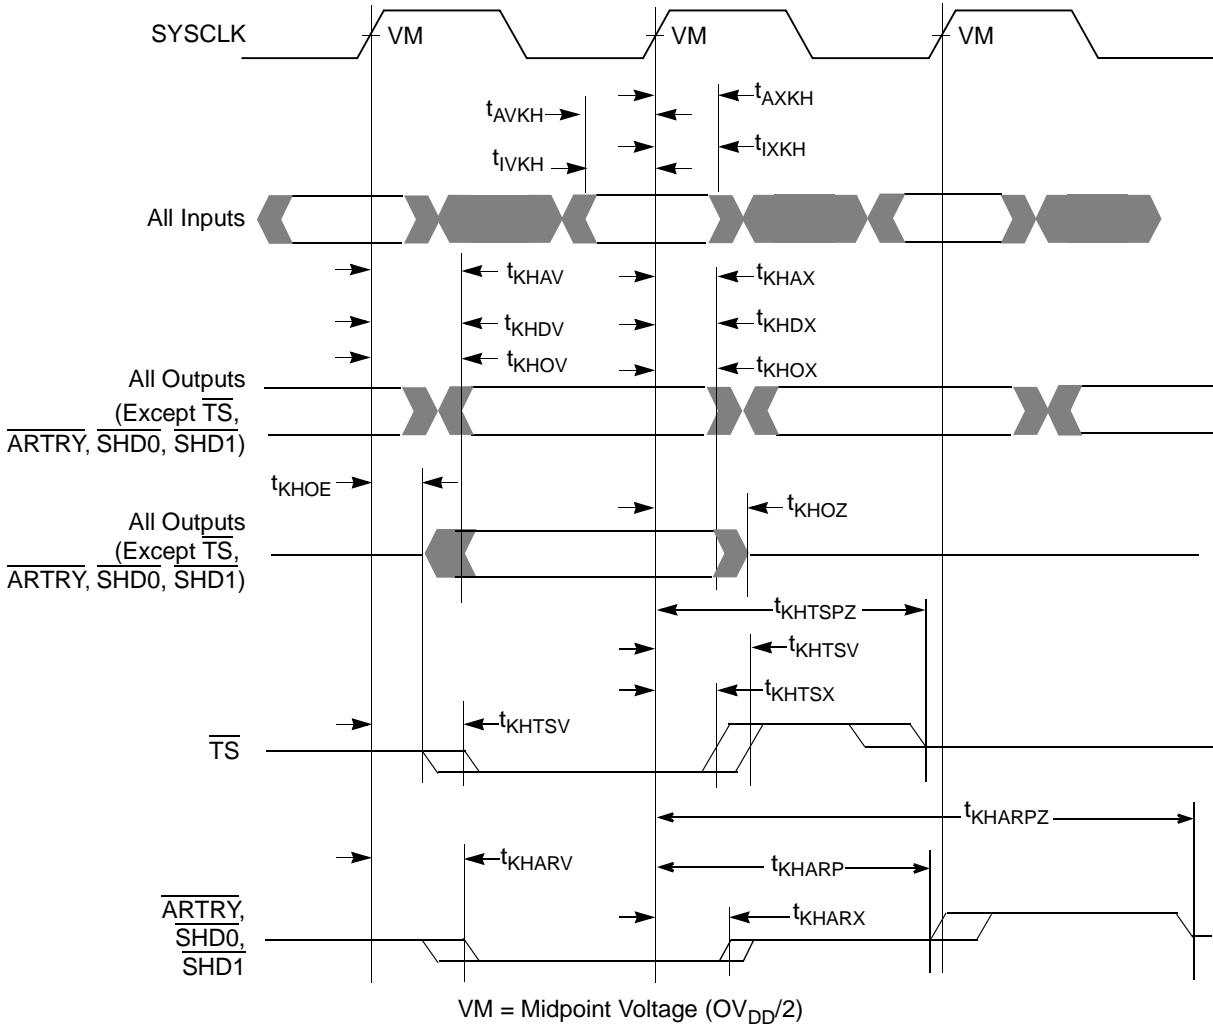

Figure 6. Input/Output Timing Diagram
- According to the bus protocol,  $\overline{\text{TS}}$  is driven only by the currently active bus master. It is asserted low then precharged high before returning to high impedance as shown in Figure 6. The nominal precharge width for  $\overline{\text{TS}}$  is  $0.5 \times t_{\text{SYSCLK}}$ , i.e., less than the minimum  $t_{\text{SYSCLK}}$  period, to ensure that another master asserting  $\overline{\text{TS}}$  on the following clock will not contend with the precharge. Output valid and output hold timing is tested for the signal asserted. Output valid time is tested for precharge. The high impedance behavior is guaranteed by design.
- According to the bus protocol,  $\overline{\text{ARTRY}}$  can be driven by multiple bus masters through the clock period immediately following  $\overline{\text{AACK}}$ . Bus contention is not an issue because any master asserting  $\overline{\text{ARTRY}}$  will be driving it low. Any master asserting it low in the first clock following  $\overline{\text{AACK}}$  will then go to high impedance for one clock before precharging it high during the second cycle after the assertion of  $\overline{\text{AACK}}$ . The nominal precharge width for  $\overline{\text{ARTRY}}$  is  $1.0 t_{\text{sysclk}}$ ; that is, it should be high impedance as shown in Figure 6 before the first opportunity for another master to assert  $\overline{\text{ARTRY}}$ . Output valid and output hold timing is tested for the signal asserted. The high-impedance behavior is guaranteed by design.
Figure 6 provides the input/output timing diagram for the MPC7441.